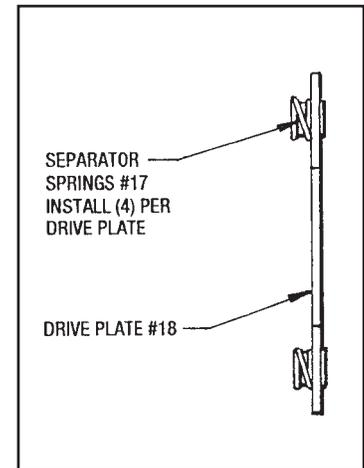

Figure 3.8
2. Install Separator Springs (#17) on Drive Plates (#18) (*See Figure 3.8*). Simply snap the springs over the large end of the rivets in the Drive Plates (#18). Install four springs per drive plate.